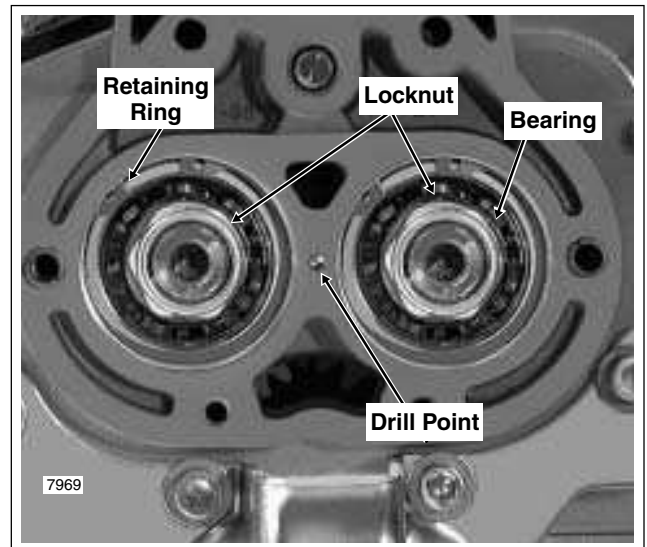

Figure 7-23. Side Door Bearings
Note that one side of the retaining rings are beveled. Always install the ring with the beveled side opposite the bearing. Side doors using the beveled retaining rings are marked with a "drill-point" hole between the bearing bores. See *Figure 7-23*.
- Install a spacer and locknut on the threaded end of each shaft and tighten the nuts until finger tight. See Figure 7-23. Final tightening is performed under INSTALLATION, steps 5 and 6.
6. With the transmission locked, tighten the mainshaft and countershaft locknuts to 45-55 ft-lbs (61-75 Nm). See Figure 7-23.